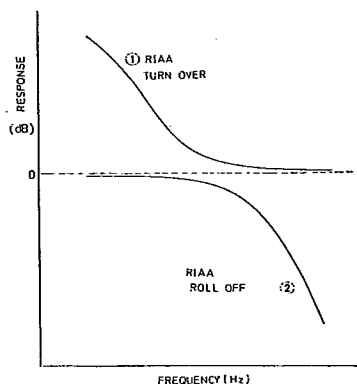
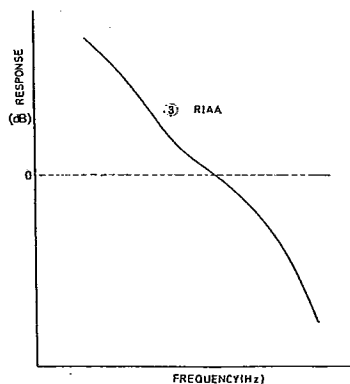
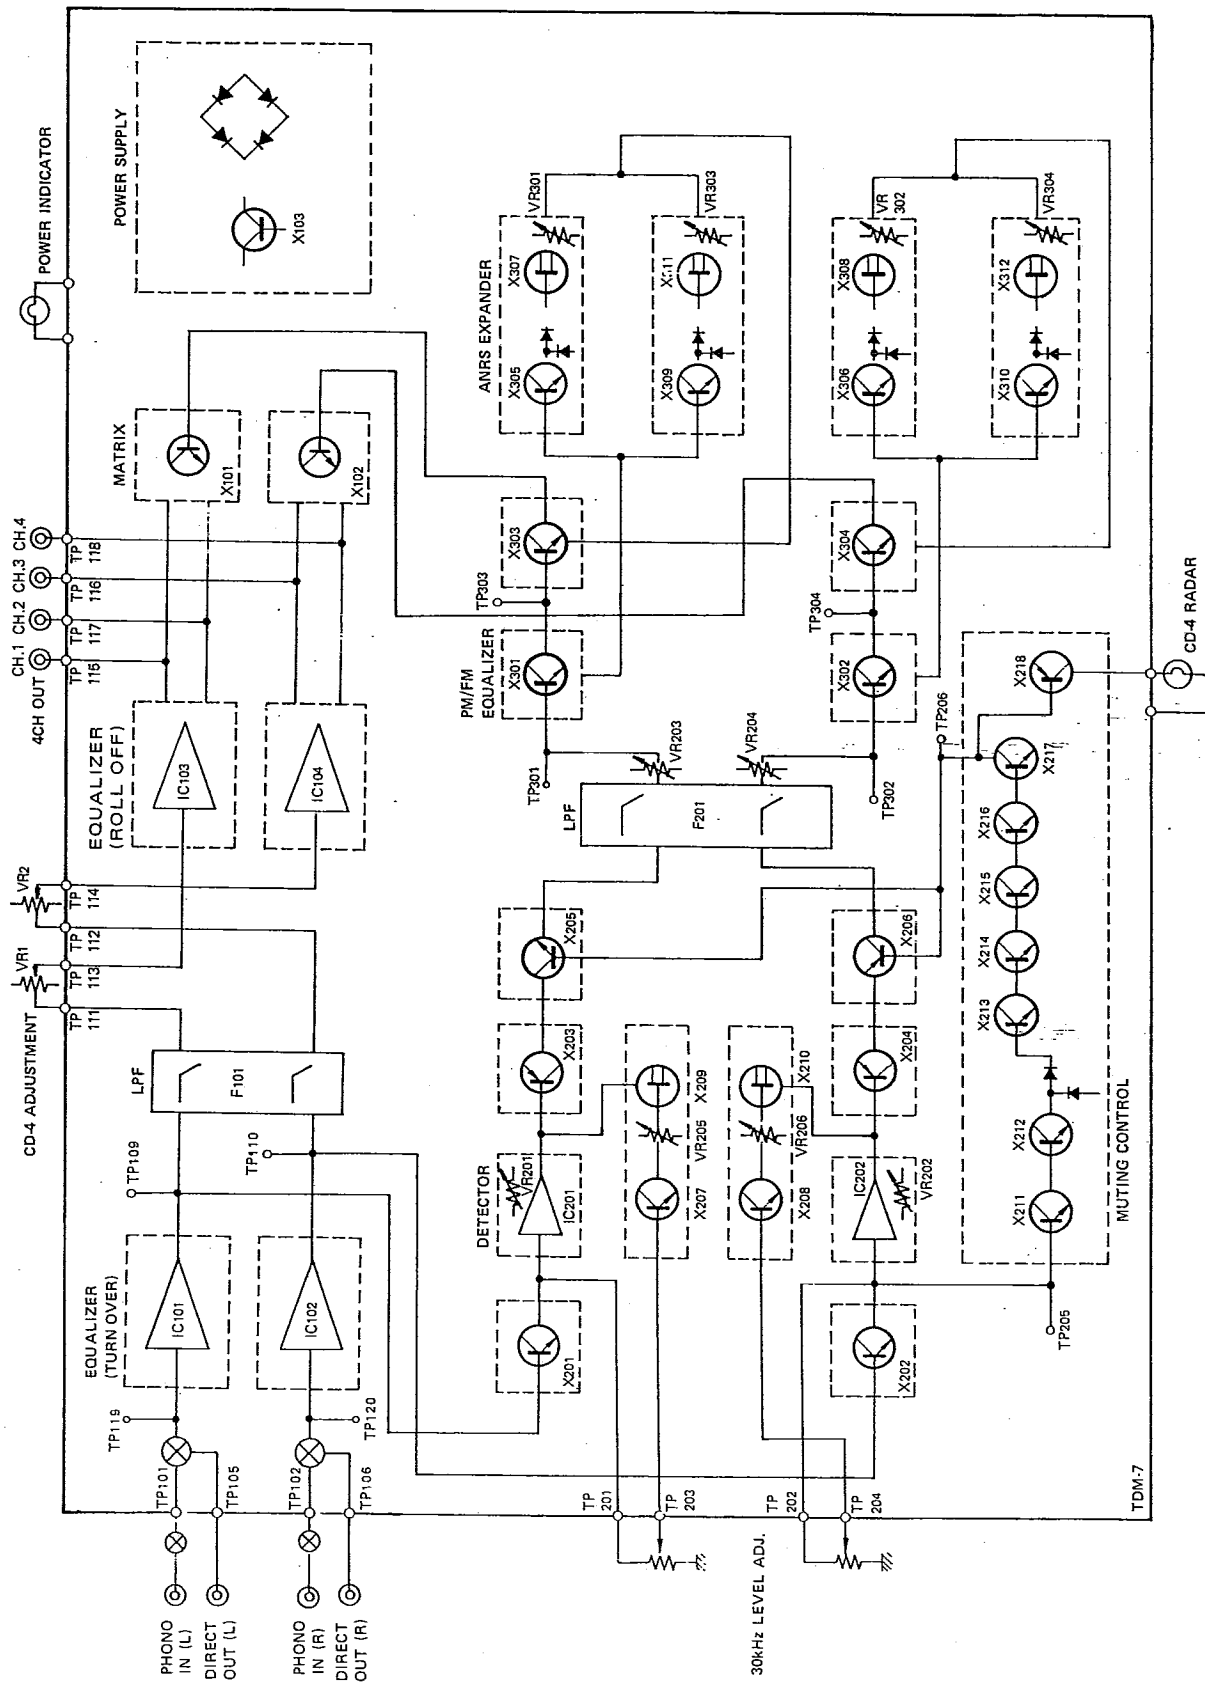

Fig. 3
Fig. 4
Fig. 6
In the block diagram Fig. 6, the player output enters the equalizer (1/2) (IC101 — 102). This equalizer has a characteristic shown by curve (1) of Fig. 3, which is an RIAA standard turnover curve. On the other hand, the equalizer (2/2) consisting of IC103 — 104 has an equalization curve corresponding to the RIAA roll-off characteristic, as shown by curve (2) of Fig. 3. In conjunction these two equalizers give the complete RIAA equalization shown by curve (3) of Fig. 4. Therefore, the sum signal mentioned in the previous section takes the complete RIAA curve transformation before entering the matrix circuit and the carrier signal goes to the demodulator circuit block transformed by the RIAA turnover curve. F101 (low-pass filter) cuts off the difference signal at 15kHz. The modulated signal is detected by PLL (IC201, 202).